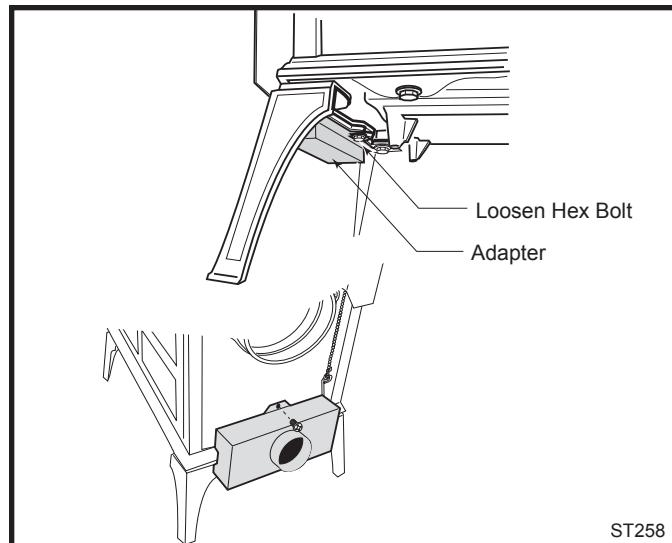

Fig. 24 Attach the adapter to the bottom plate.
- If you are not installing a Rear Heat Shield, use the phillips head screw to secure the upper flange of the Adapter to the stove at the hole from which the screw was removed in Step 1. (Fig. 24) Otherwise, a heat shield spacer will be used here. (See "Install the Rear Heat Shield", below.)